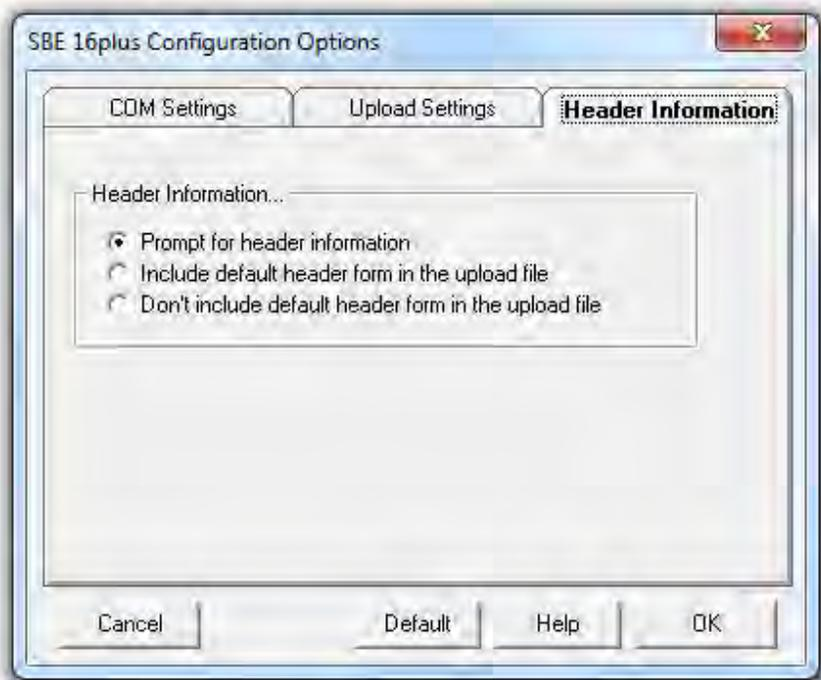

Figure 5. Image of Header Information tab within the SBE 16plus Configuration Options box.
5. In the **Header Information** tab, confirm that **Prompt for header information** is selected (Figure 5).